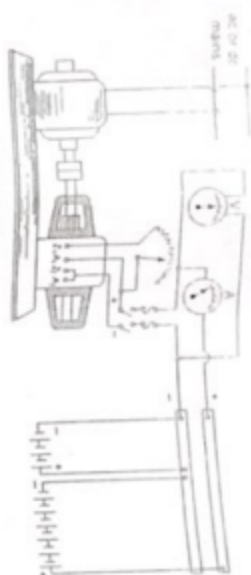

Fig. 9.19 Constant potential method of battery charging
**Constant Potential Charging System:** To charge a battery with the help of a motor-generator set (or motor rectifier which will be discussed later) is based on this system. Figure 9.19 shows the connection of this system. The generated voltage is kept constant at 10% higher than the full charged voltage of the battery. The charging current in this system is either varied by controlling the field regulator of the dynamo or by the speed of the prime-mover. In the beginning, the value of the charging current will be very high as the counter emf of the battery is very low. But after some time, the charging current decreases to a very small value as the back emf of the battery increases on being charged.